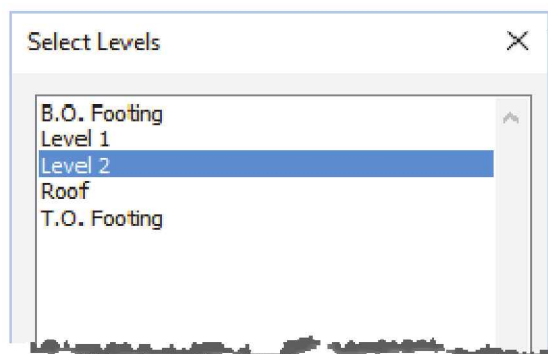

FIGURE 5-4.17 Paste aligned options
27. Click **Level 2** and then **OK** (Figure 5-4.17).